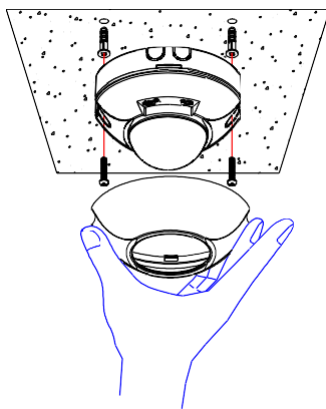

FIGURE 4
- (1) Switch off the power source or wall switch.
- (2) Push the two curve sides to remove the decorative cover.
- (3) Make use of the base as a template to mark the position of two screw holes on the ceiling.
- (4) Drill the ceiling wall and fix the base to the ceiling using suitable plastic wall plugs and screws provided. Finally fit the decorative cover back to the unit. (FIGURE 4)